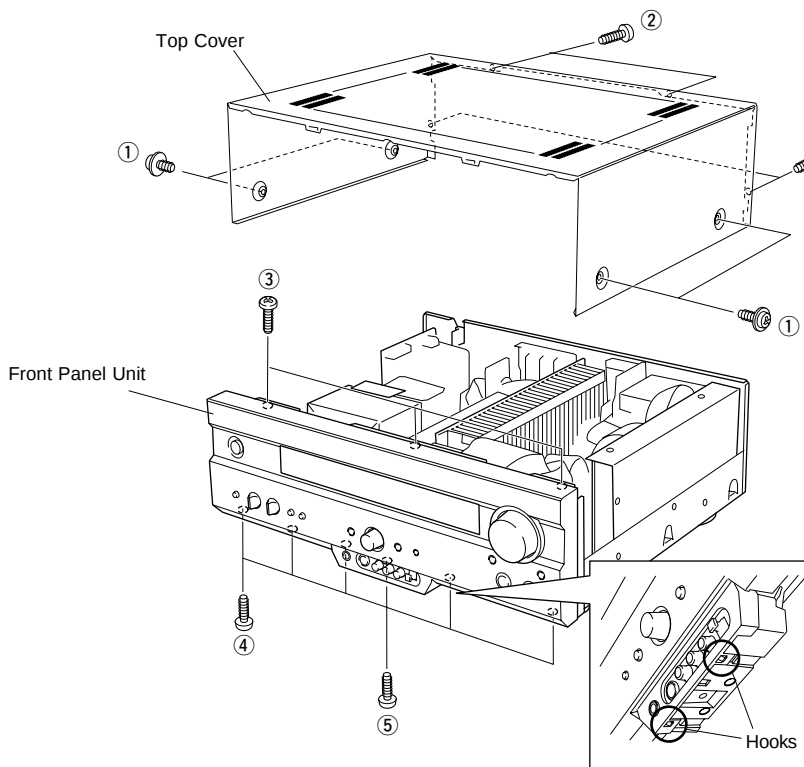

Fig. 1
- 13 POWER (2) P.C.B.
- 14 POWER (6) P.C.B. (R, T only)
- 15 MAIN (4) P.C.B.
- 16 MAIN (1) P.C.B.
- 17 POWER (3) P.C.B.
- 18 MAIN (2) P.C.B.
- 19 INPUT (1) P.C.B.
- 20 INPUT (2) P.C.B.
Remove 8 screws (① and ②) and then remove the Top Cover in Fig. 1.
- Remove 9 screws (③, ④ and ⑤) in Fig. 1.
- Lift 2 hooks and then remove the Front Panel Unit in Fig. 1.